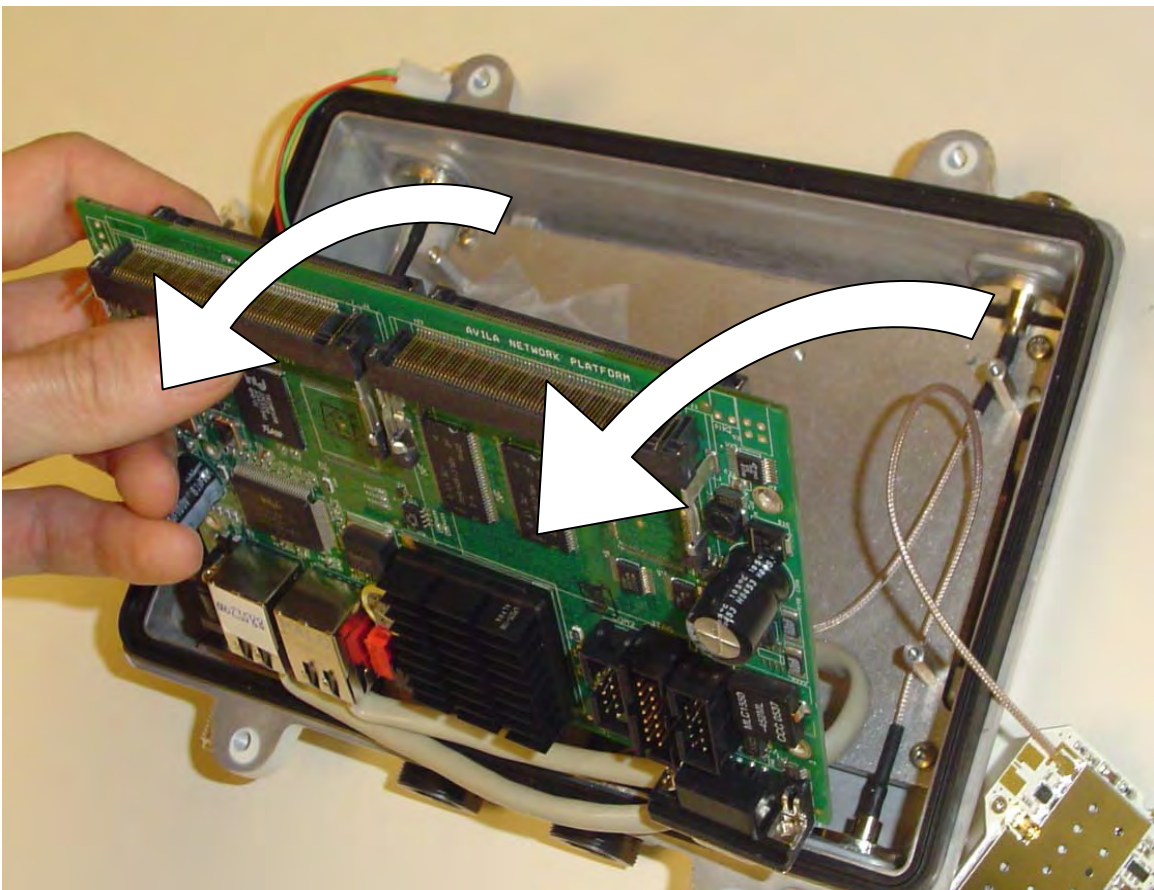

Fig.7
Step 4) Pull the motherboard up leaving the Ethernet cables connected (Fig.7).